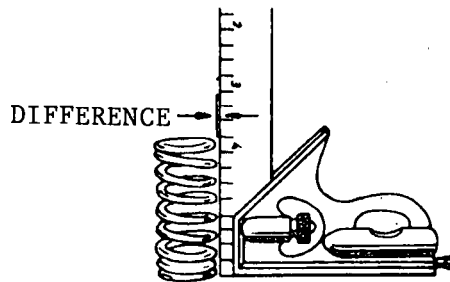

Fig. 6
a) Check the squareness of the springs (fig. 6). Fig. 5